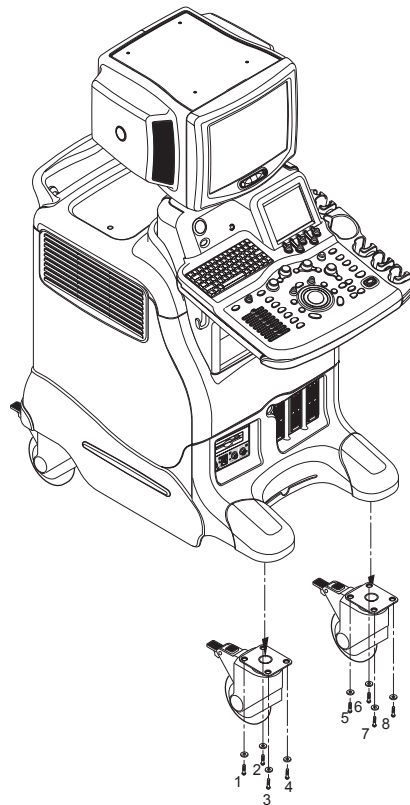

Figure 8-108 Removing the Front Caster
- 1.) Unscrew eight (8) hexagonal bolts (1-8).
- 2.) Remove the Front Caster. Refer to Figure 8-108 on page 8-58 .